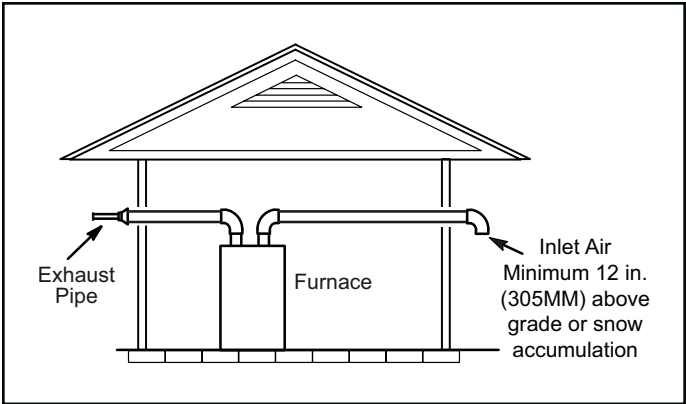
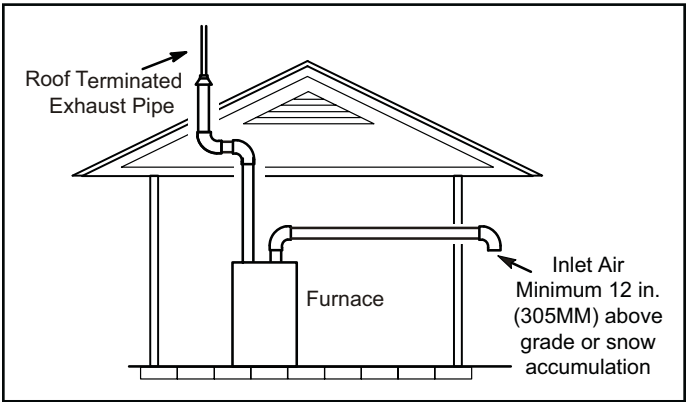

Figure 23. Exiting Exhaust and Intake Vent
Figure 24. Exiting Exhaust and Intake Vent
- 1. Intake and exhaust terminations are not required to be in the same pressure zone. You may exit the intake on one side of the structure and the exhaust on another side (Figure 23). You may exit the exhaust out the roof and the intake out the side of the structure (Figure 24).
- 5. On field supplied terminations for sidewall exit, exhaust piping may extend a maximum of 12 inches (305 mm) for 2" PVC and 20 inches (508 mm) for 3" (76 mm) PVC beyond the outside wall. Intake piping should be as short as possible. See Figure 23.